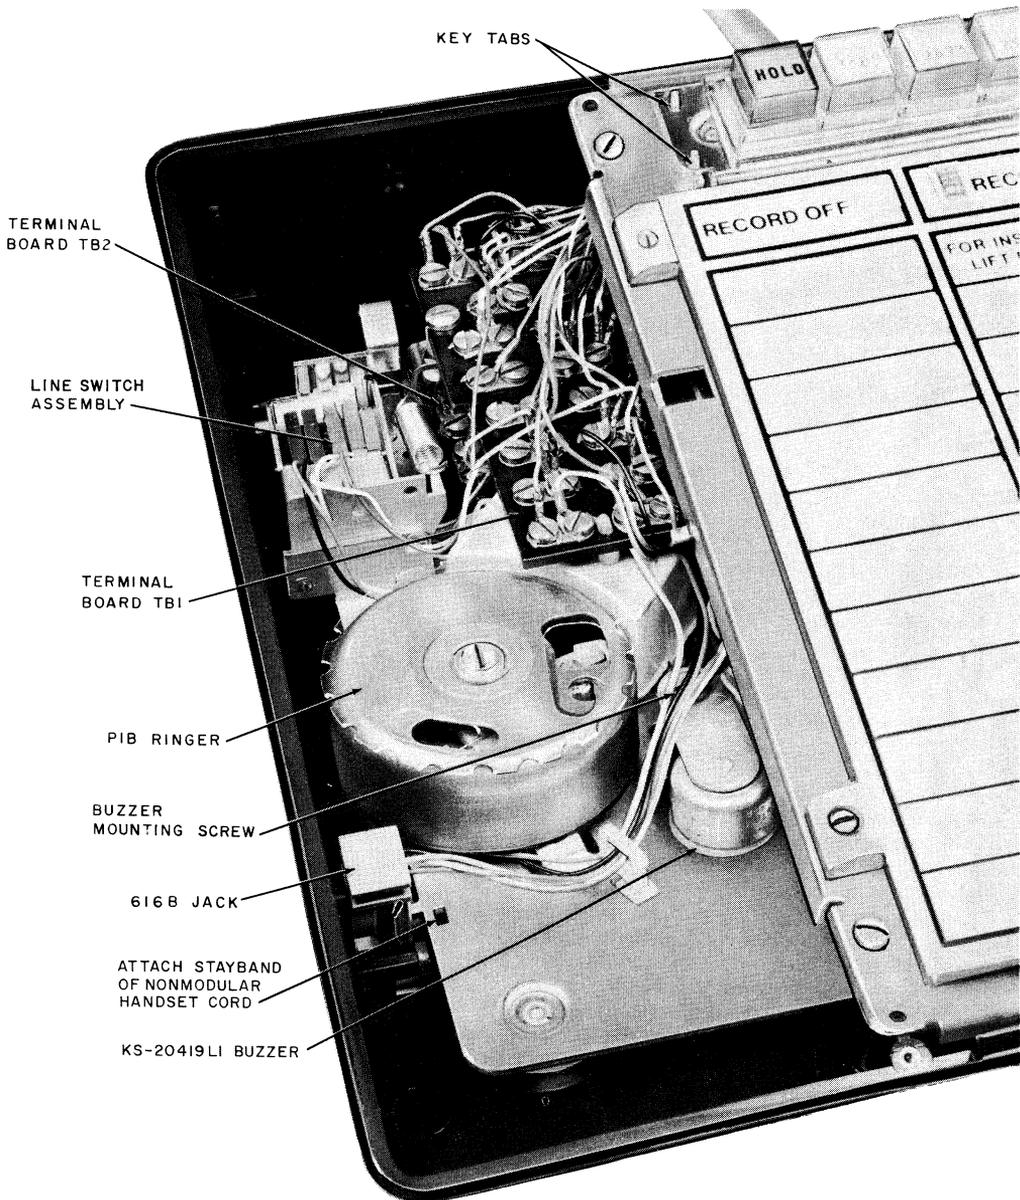

Fig. 3—2872A2M Telephone Set With Faceplate, Handset, Handset Cradle, and Upper Housing Removed
- (a) Under the handset cradle (Fig. 3):